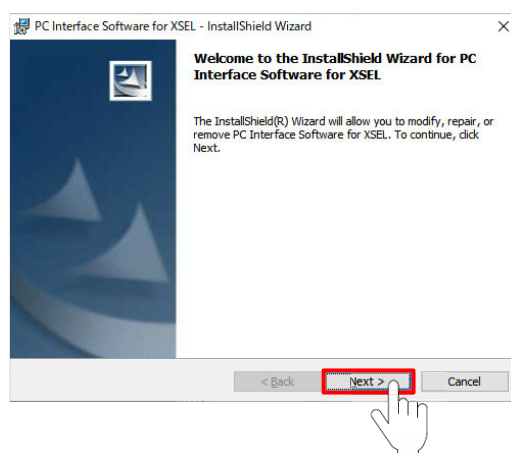

Fig. 1.8 PC Interface Software for XSEL - InstallShield Wizard Screen
6) The PC Interface Software for XSEL - InstallShield wizard screen (Fig. 1.8) will be displayed. Click **Next**.